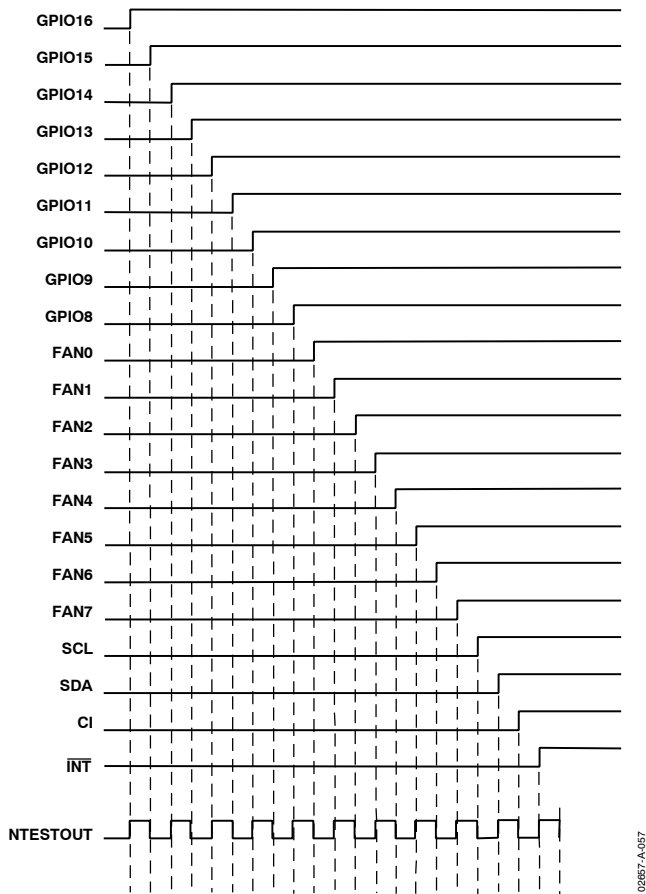

Figure 57. NAND Tree Test Taking Inputs High in Turn
1. Start with all inputs low and take them high in turn, starting with the input nearest to $\overline{\text{NTEST_OUT}}$ (GPIO16/ $\overline{\text{THERM}}$) and working back up the tree to the input furthest from $\overline{\text{NTEST_OUT}}$ ($\overline{\text{INT}}$). This should give the characteristic output pattern shown in Figure 57, with $\overline{\text{NTEST_OUT}}$ toggling each time an input is taken high.